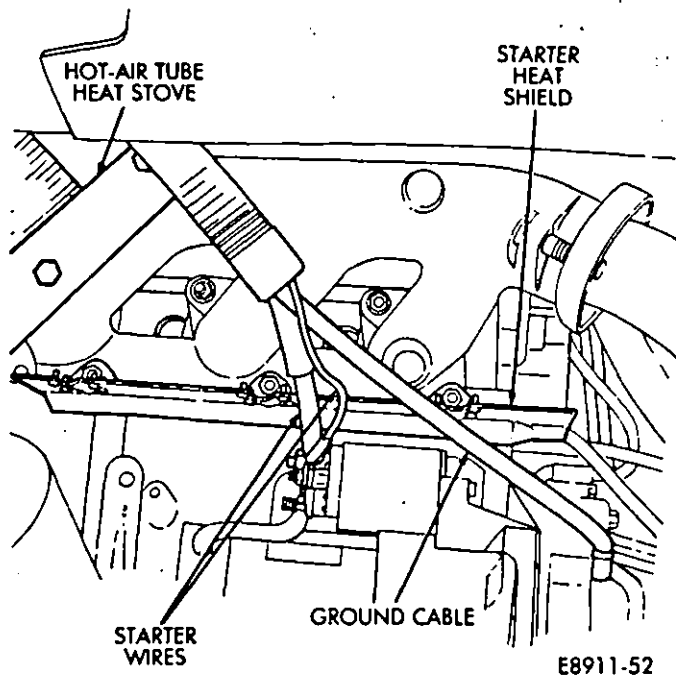

Fig. 5—Starter Heat Shield
(9) Remove hot air tube heat stove (Fig. 5).
(10) Disconnect the starter wires and ground cable (Fig. 5).
(11) Unscrew the lower exhaust manifold mounting nuts and remove starter heat shield (Fig. 5).
(12) Unscrew the remaining exhaust manifold mounting nuts.
(13) Remove the exhaust manifold and gaskets.
(2) Install the starter heat shield over the bottom stud (Fig. 5).
(3) Install washers and nuts. Tighten the nuts to 17.5 N·m (13 ft-lbs) torque.
(4) Install the starter motor wires and ground cable.
(5) Install the hot air tube heat stove. Tighten the bolts to 19 N·m (14 ft-lbs).